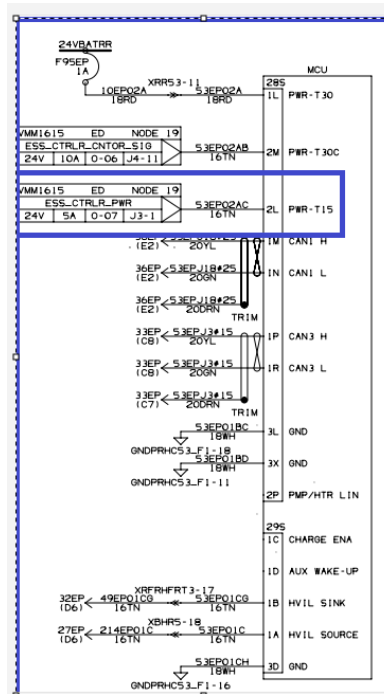

Fig 3: T15 from Vansco
output set to true. As an example, from Fig 3: Node 19 output 7 connected to T15 of the MCU, this means, search O19-7 in the PLC program to force it to be true while updating the Bootloader.
- ii. **For SRs with 3033 module** – Open the project archive file in PEDS, click login button on the toolbar or press **Alt+F8** to scan the network and for live logic review. Once connection is established, **Node\_02(Parker CM3033)** on the PEDS program will turn green. Check Electrical schematics for the MCU T15 node output as shown in Fig 3. Then, navigate to EP\_ESS – EP\_Battery\_System Library, right click on the node output named as Node\_04. OutputXX\_DoutCmd which is labelled as ESS\_Controller\_Pwr inside the library, and force the Output to “TRUE”.